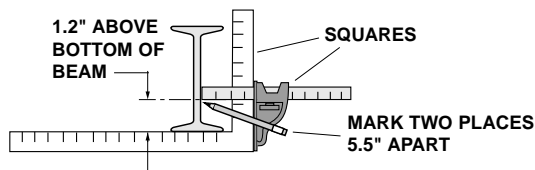

FIGURE 5–LOCATING FIXED TROLLEY HOLES
B. Mark vertical location of mounting holes on beam web, 1.2" above bottom of I-beam. One method of doing this is by using two squares as shown in Figure 5.